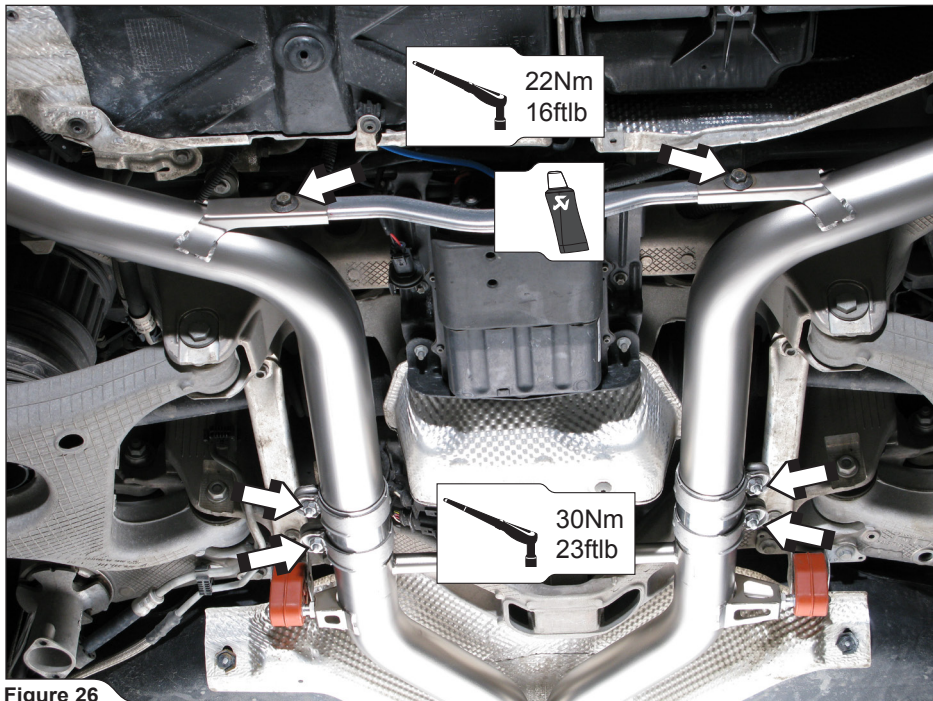

Figure 26
13. **For all vehicle models:** center the mufflers in respect to the rear bumper, tighten the double clamps and original muffler linkage (using original bolts and nuts) to a specified torques (**Figure 26**).